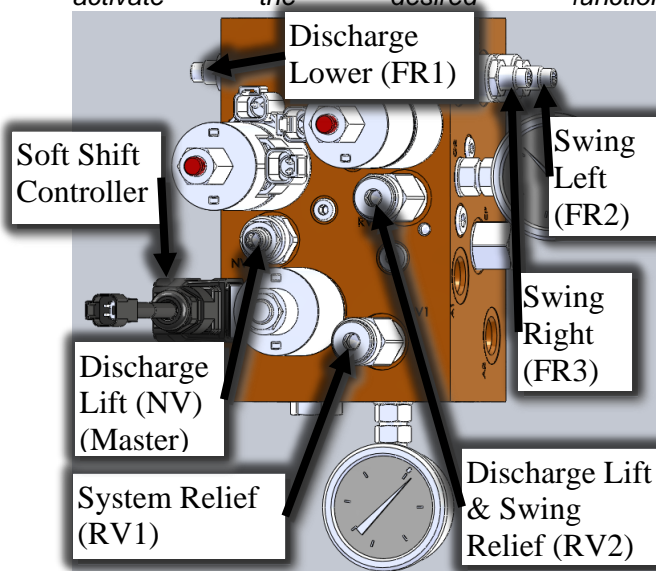

Figure 106 – Adjustment Screws and Manual Override for Discharge Cylinder Lift and Discharge Auger Swing Right.
Note: The discharge lift flow control (NV) is also the master flow control for both the discharge lift cylinder and swing motor (see Figure 106).
The manifold valve on the 7165 GM is equipped with an electronic soft shift controller (see Figures 106, 107, & 108) that slowly opens the solenoid valve controlling the hydraulic discharge auger motors eliminating the 'bangs' or hydraulic shocks associated with operating a hydraulic valve. The controller is set to jump to a preset 'step' voltage then 'ramp' up to maximum at a preset rate.